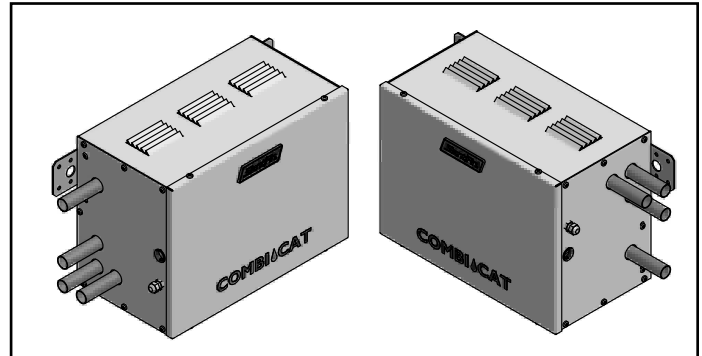

Figure 2.
1. Combi-Cat must be installed with water pipes at right or left side of the unit (see figure 2).